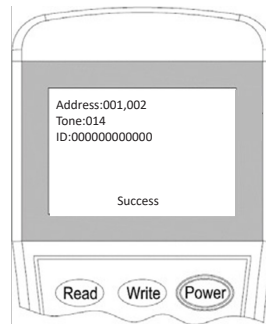

Fig.10 Configuration information
5. Exit the programming tool to the main menu and then press button “Read” or “1” to view the configuration information of the Sounder flasher base, as shown in Figure 10.
Under the main menu, as described in Section 3.2, the configuration parameters of the Sounder flasher base can be viewed by clicking the button **“Read”** or **“1”**, as shown in Figure 10.